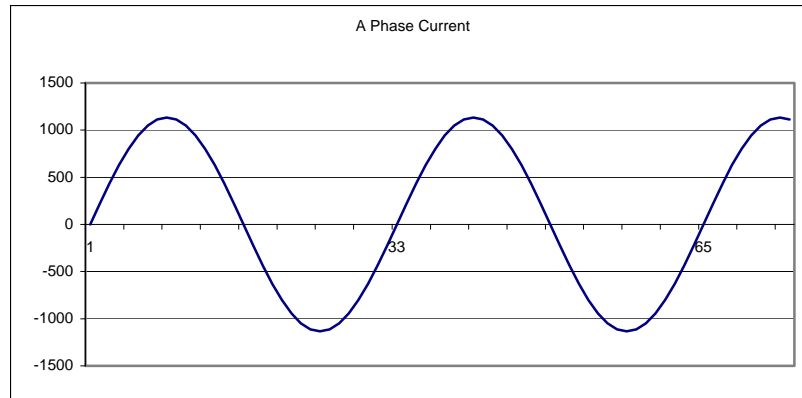
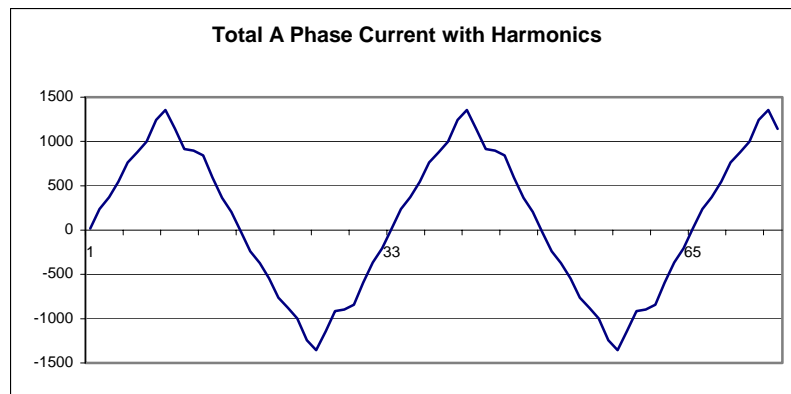
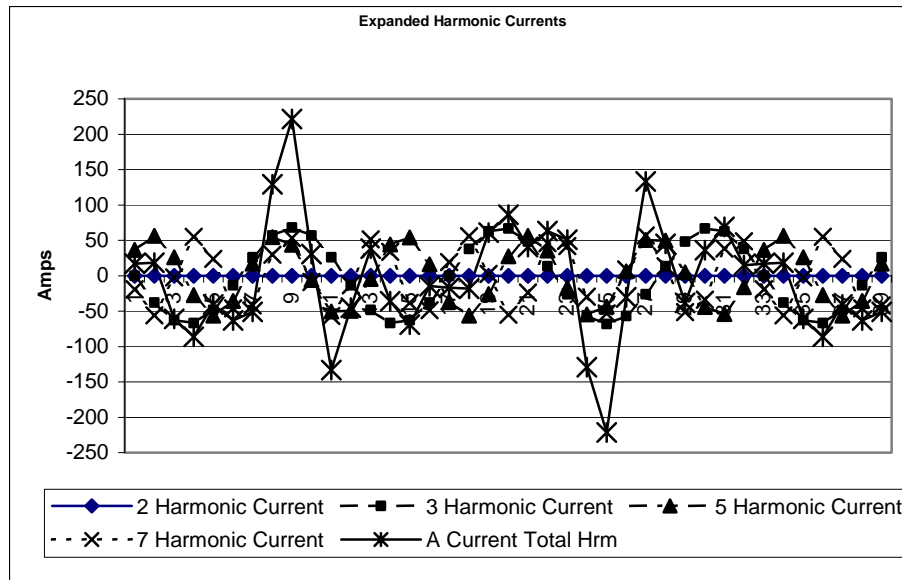

Figure 1.10: Nondistorted Current Waveform
Figure 1.11: Distorted Current Wave
Figure 1.12: Waveforms of the Harmonics
- Harmonic distortion is primarily the result of high concentrations of non-linear loads. Devices such as computer power supplies, variable speed drives and fluorescent light ballasts make current demands that do not match the sinusoidal waveform of AC electricity. As a result, the current waveform feeding these loads is periodic but not sinusoidal. Figure 1.10 shows a normal, sinusoidal current waveform. This example has no distortion.
- Figure 1.11 shows a current waveform with a slight amount of harmonic distortion. The waveform is still periodic and is fluctuating at the normal 60 Hz frequency. However, the waveform is not a smooth sinusoidal form as seen in Figure 1.10.
- The distortion observed in Figure 1.11 can be modeled as the sum of several sinusoidal waveforms of frequencies that are multiples of the fundamental 60 Hz frequency. This modeling is performed by mathematically disassembling the distorted waveform into a collection of higher frequency waveforms. These higher frequency waveforms are referred to as harmonics. Figure 1.12 shows the content of the harmonic frequencies that make up the distortion portion of the waveform in Figure 1.11.
The waveforms shown in Figure 1.12 are not smoothed but do provide an indication of the impact of combining multiple harmonic frequencies together.